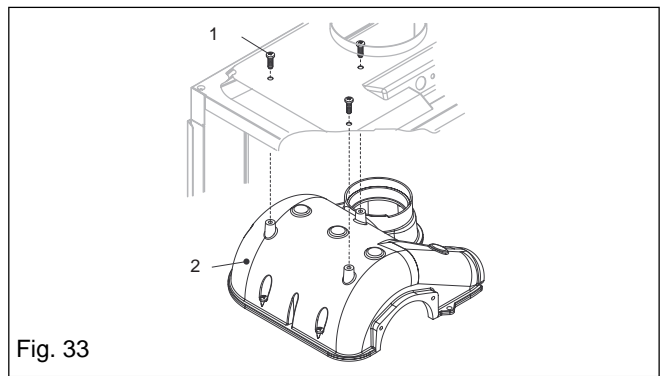

Fig. 33
**Fig. 33:** unscrew and remove the 3 screws (1) that secure the collector to the air chamber and disconnect the collector (2) from the flue connection. Replace in the reverse order ensuring all seals are intact and located correctly.